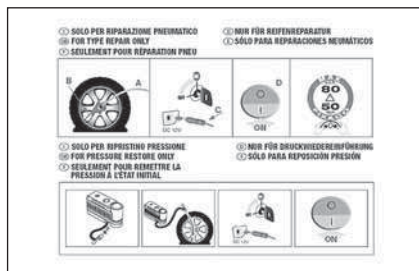

fig. 4
- instruction brochure (see **fig. 4**), to be used for prompt and proper use of the quick repair kit and to be then handed to the personnel charged with handling the treated tyre;